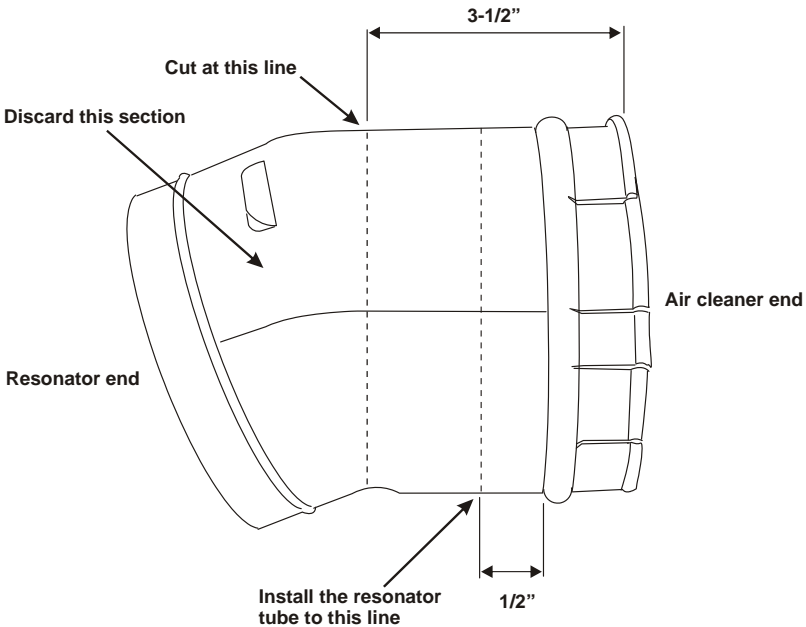

Figure 3.10
- Cut the short, plastic air intake tube that attaches the air cleaner to the resonator (Figure 3.10). Discard the bent section.